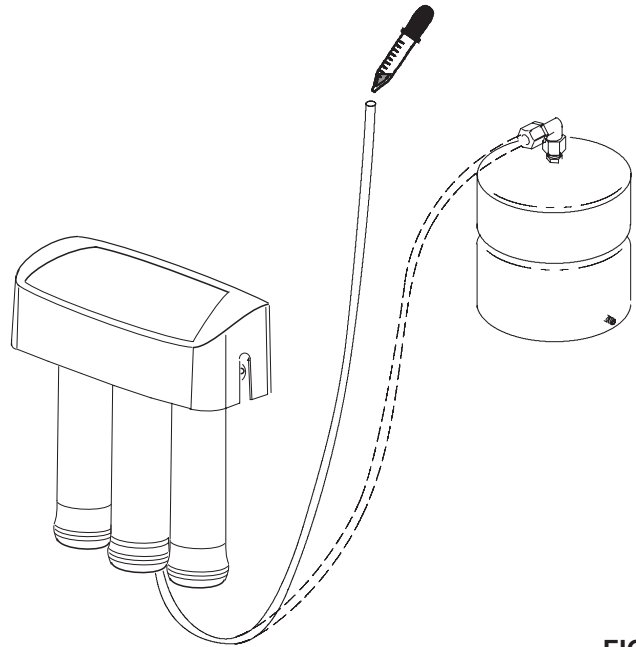

FIG. 23
Complete the following steps to sanitize the system. See Fig. 23.
4. Add 3 ml. of bleach into open end of yellow tubing. Handle bleach according to bleach manufacturer's recommendations. See Fig. 23.